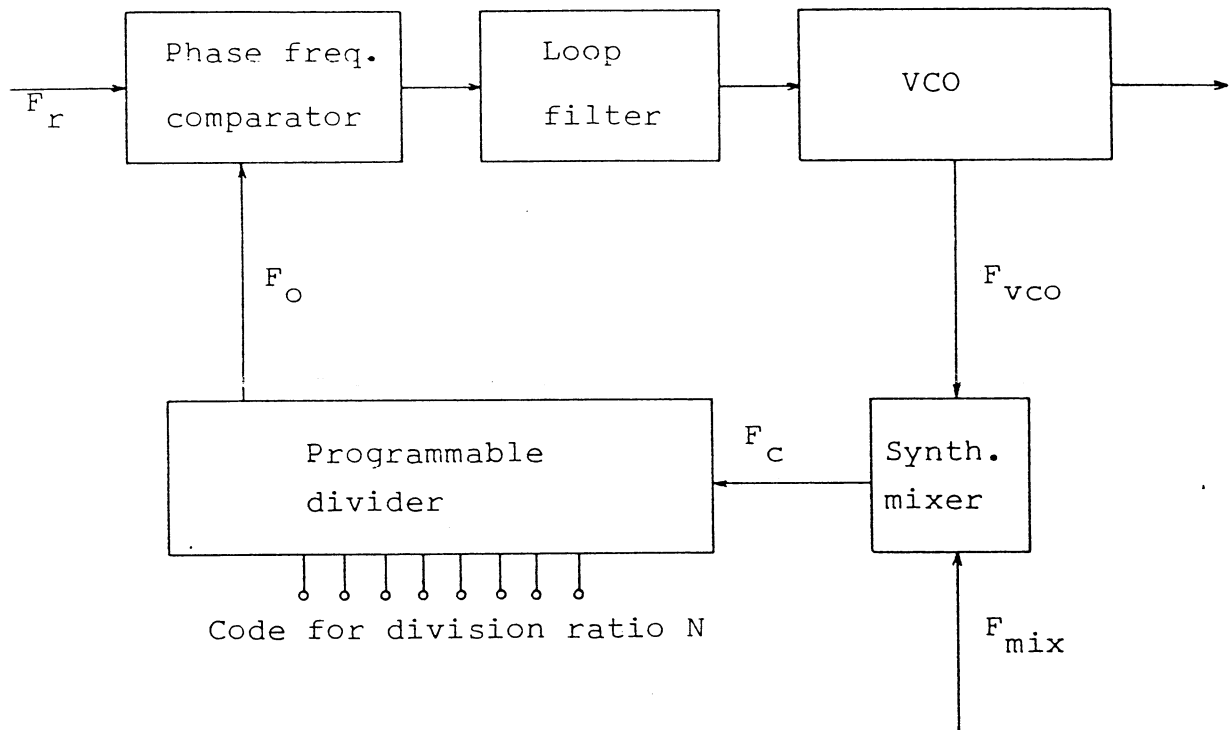

Fig. 3 Synthesizer loop
A multichannel synthesizer (Fig.3)
To build a multichannel synthesizer we have to add some more components (Fig. 3) but the basic function is the same. Here the VCO frequency is converted to a lower frequency F_c suitable for the digital divider. $F_c = F_{vco} - F_{mix}$ (1). When the loop is in lock the incoming frequencies F_r and F_o are equal and the phase difference is zero. $F_o = F_r$ (2). The programmable divider divides frequency F_c with a number N , which can be selected by a binary code. $F_c = N \times F_o$ (3). Combining equations (1), (2) and (3) give: